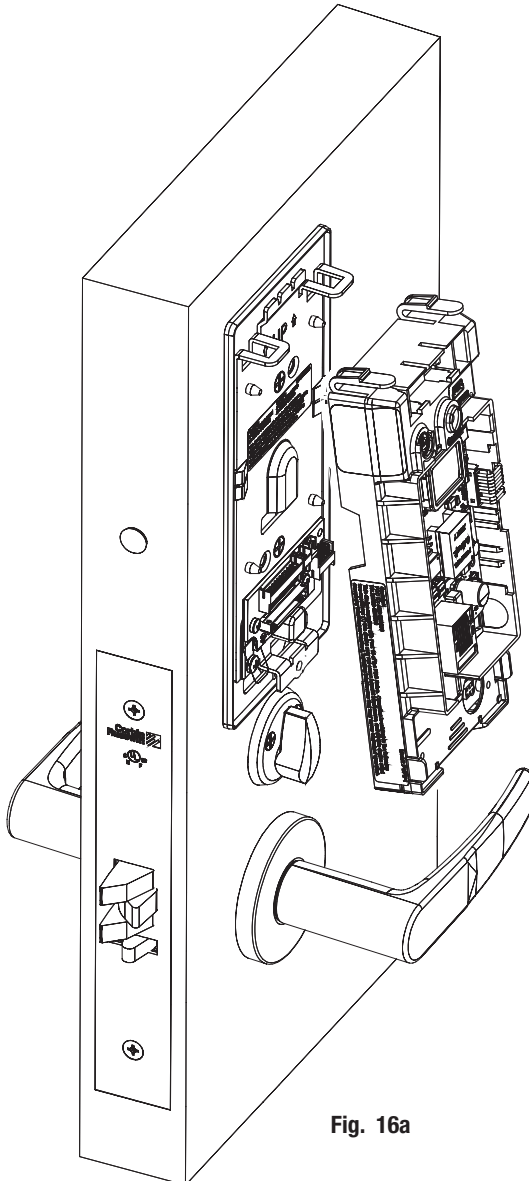

Fig. 16a
1. Insert top tabs of controller into slots on mounting plate (Fig. 16a,b).